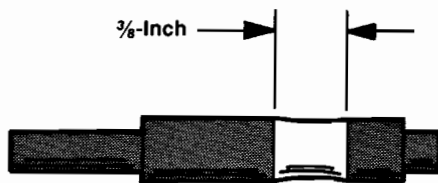

Figure 4-2 Excessive Shaft Wear
1. With the Midi Trak-Ball disassembled, inspect the roller shafts and the idler shaft for excessive wear (see Figure 4-2). If the wear band exceeds $\frac{3}{8}$ inch, replace the roller shaft as described in steps 2-6 or replace the idler shaft as described in steps 7-10.